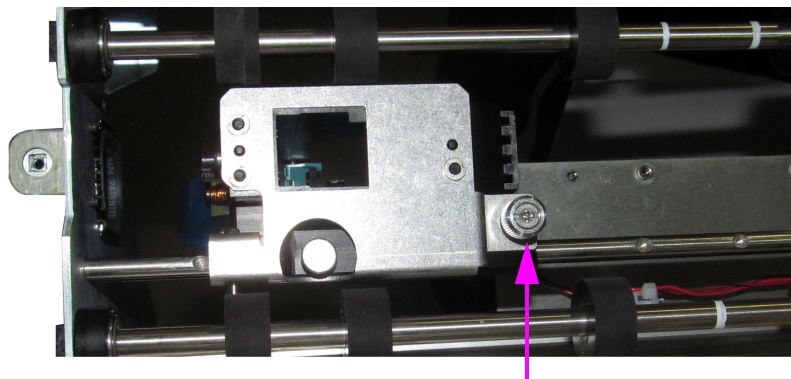

Figure 5-9: Graphics Printer Interlock
10. Pivot the assembly back into the stacker cover and tighten the thumbscrew. The IMTECH printer features an interlock on its door, which goes into effect when the thumbscrew is not fully engaged (see Figure 5-9).